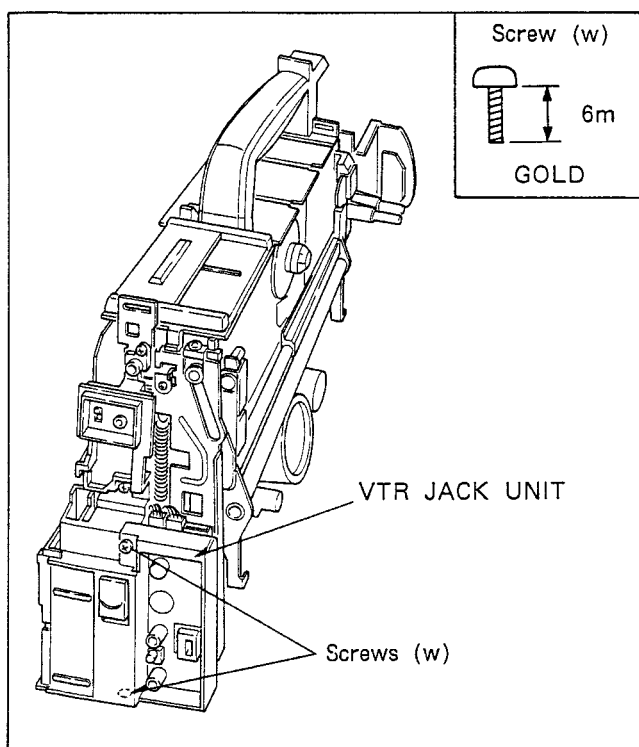

Fig. D25
- (1) Remove 2screws (w) show in Fig.D25.
- (2) Disconnect Connectors P4901, P4901, P4904, P4906 and P4934 on VTR JACK UNIT.